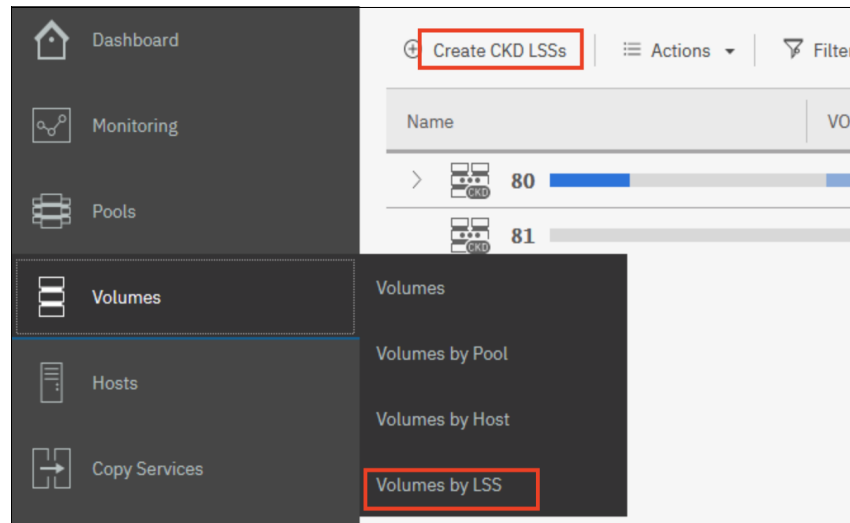

Figure 9-73 Creating CKD volumes by LSSs
- Click the **Create CKD LSSs** tab from the Volumes by LSS window, as shown in Figure 9-73.